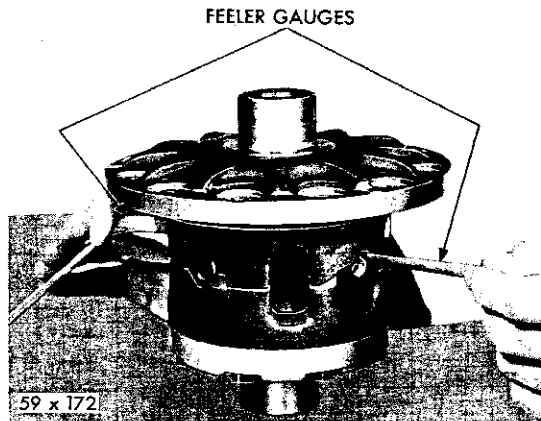

Fig. 44—Measuring Clearance of Pinion Shaft and Cap
(10) Invert the differential to rest on the opposite hub. Measure the opposite pinion shaft in like manner to the same specifications (Fig. 44).